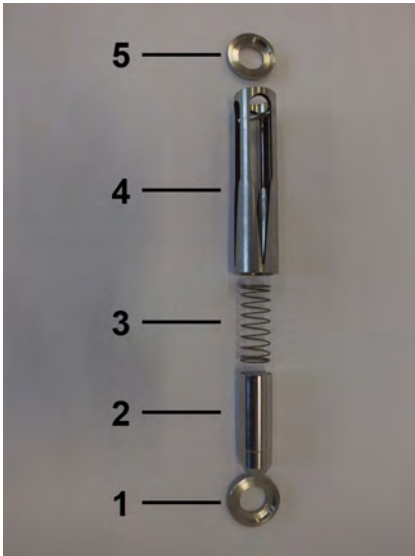

Fig. 47: Inner parts DUM/A
- 10.** ▶ The inner parts of the flow monitor consist of the centering disc (inlet) (Fig. 47/1), float (Fig. 47/2), spring (Fig. 47/3), slot nozzle (Fig. 47/4) and centering disc (outlet) (Fig. 47/5).
6. ▶ The inner parts of the flow monitor consists of the centering disc (inlet) (Fig. 47/1), float (Fig. 47/2), spring (Fig. 47/3), slot nozzle (Fig. 47/4) and centering disc (outlet) (Fig. 47/5).